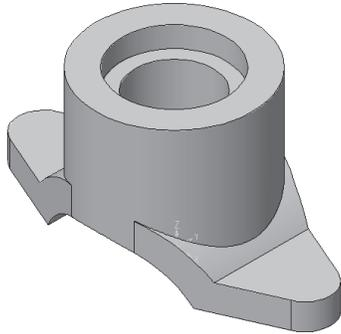

Figure 3-84 Counter bore added to the model
- Create a counter bore using the **Drill Hole Feature** tool, refer to Figure 3-84.
4. Set the value as **75 mm** in the **Drill diameter** spinner. Select the **Through** radio button and choose **OK**. The counter bore hole is created as shown in Figure 3-84.